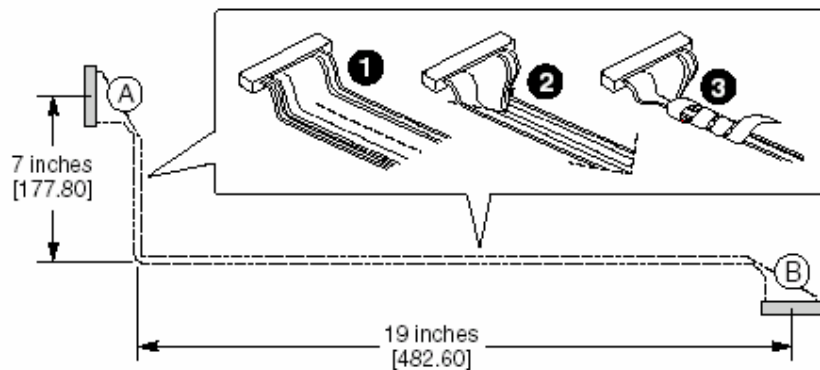

Figure 32: SCSI Cable Length Required
2. Flatten the cable and fold it in half for the full length, leaving about 1-inch at each end (see Figure 32).